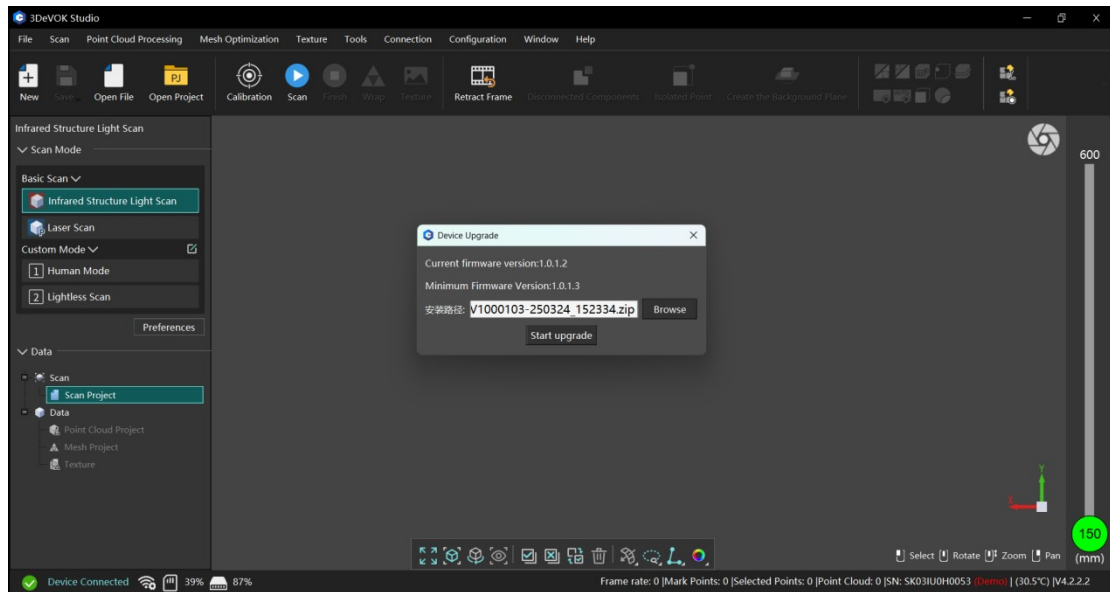

Figure 5-5 Import the Update Zip File
2. Click  for device update, and select Browse to import the zip file of Firmware and Screen Update (which can be downloaded via the Wettransfer link). Click Start Upgrade to initiate the process, which is shown in Figure 5-5.